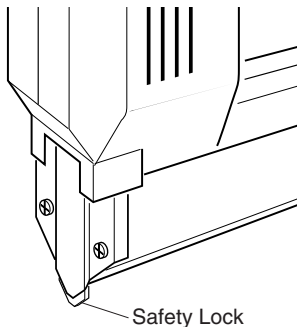

Figure 6
3. Grip tool firmly and hold against work surface. Use enough pressure to depress safety lock. The safety lock is located on nail exit of tool (see Figure 6). **IMPORTANT:** The safety lock must be depressed for this tool to operate. This tool will not fire unless this is done.